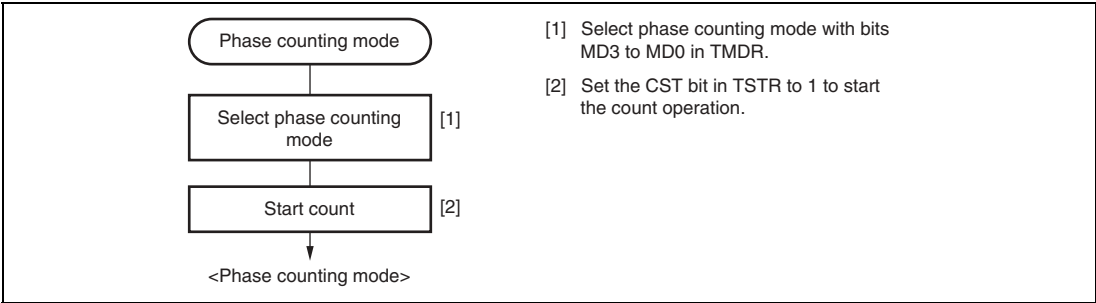

Figure 11.24 Example of Phase Counting Mode Setting Procedure
**Example of Phase Counting Mode Setting Procedure:** Figure 11.24 shows an example of the phase counting mode setting procedure.